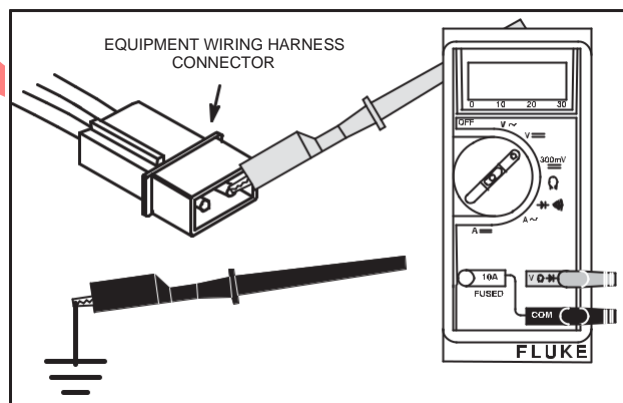

Fig. 31 – Checking Wiring
3. Attach black test lead to a good ground, Fig. 31.